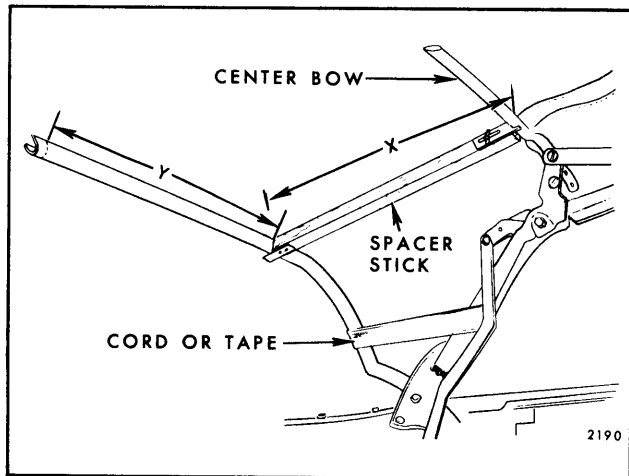

Fig. 13-9—Spacer Stick Installation
23. Lock top to windshield header. Install radius end of each adjustable spacer stick to fit against center roof bow. Install opposite end of spacer stick so that metal plate fits under rear roof bow. Spacer sticks should be installed along inboard edge of side stay pad (Fig. 13-9).
25. Temporarily tie or tape rear bow to rear side roof rails. (See Fig. 13-9.) Detach side stay pads and back curtain assembly from rear bow.
1. If new top is being installed but it was impossible to perform step 24 of removal procedure, pre-set spacer sticks to shortest length and install between center and rear roof bow (Fig. 13-9). Adjust sticks so that dimension "X" in Figure 13-9 (measured along spacer stick from front upper rolled edge of rear roof bow to center of center bow) is $16-1/16$ " on "B & C" Styles, $13-3/16$ " on "F" Styles, $18-1/2$ " on "A" Styles and $16-5/8$ " on "Z" Styles. Tie or tape rear bow to rear side roof rails.